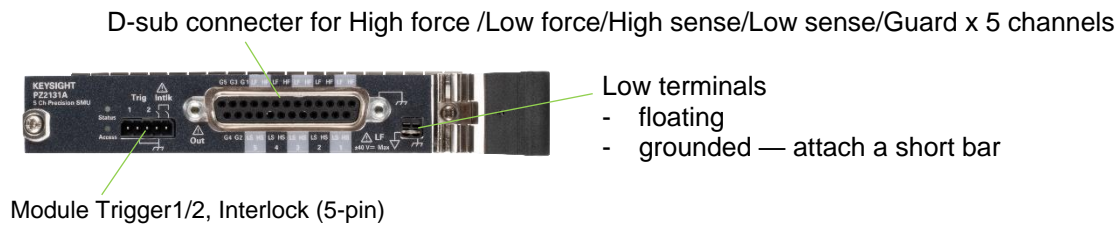

Figure 7. Module panel of PZ2130A/31A high channel density SMU
As shown in Figure 7, the PZ2120A/21A has a D-sub 25-pin connector. It provides High force (HF), Low force (LF), High sense (HS), Low sense (LS), and Guard (G) terminals for 5 channels. Each channel supports both two-wire and four-wire measurements and low current measurements with a guard. Note that although LF is shared by all channels, it is recommended to use each HF terminal with the LF terminal of the same channel.